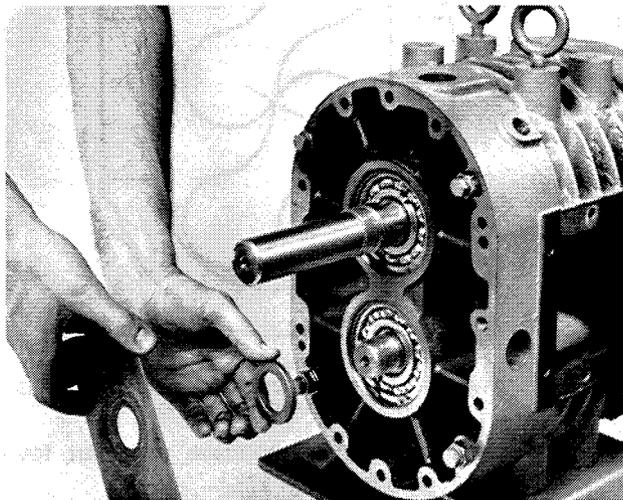

FIGURE 23
- m. Assemble clamp washer (28) and oil flinger (29) to drive end of idler shaft (see Fig. 23). Be sure that oil flinger is assembled concave side out.